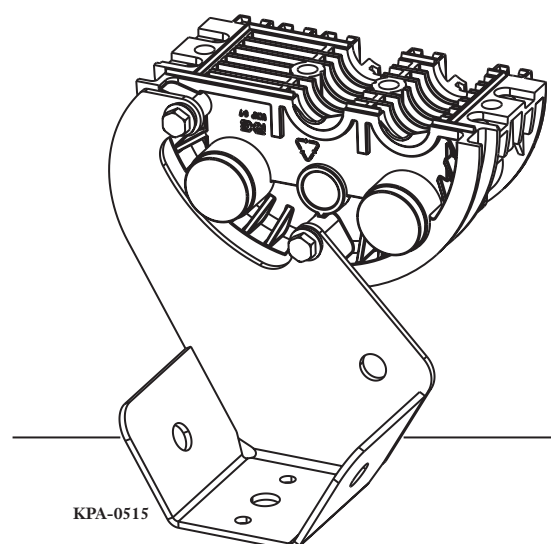

Figure 11 — Holding Bracket
**NOTE:** A table bracket to stabilize the end cap while installing and routing fiber is included with the inline closure only (Figure 11). The table bracket (p/n SCF-INST-BKT6) can be purchased separately. Secure the end cap to the bracket using the provided two screws. Then secure the bracket to the work surface using another screw (not provided).